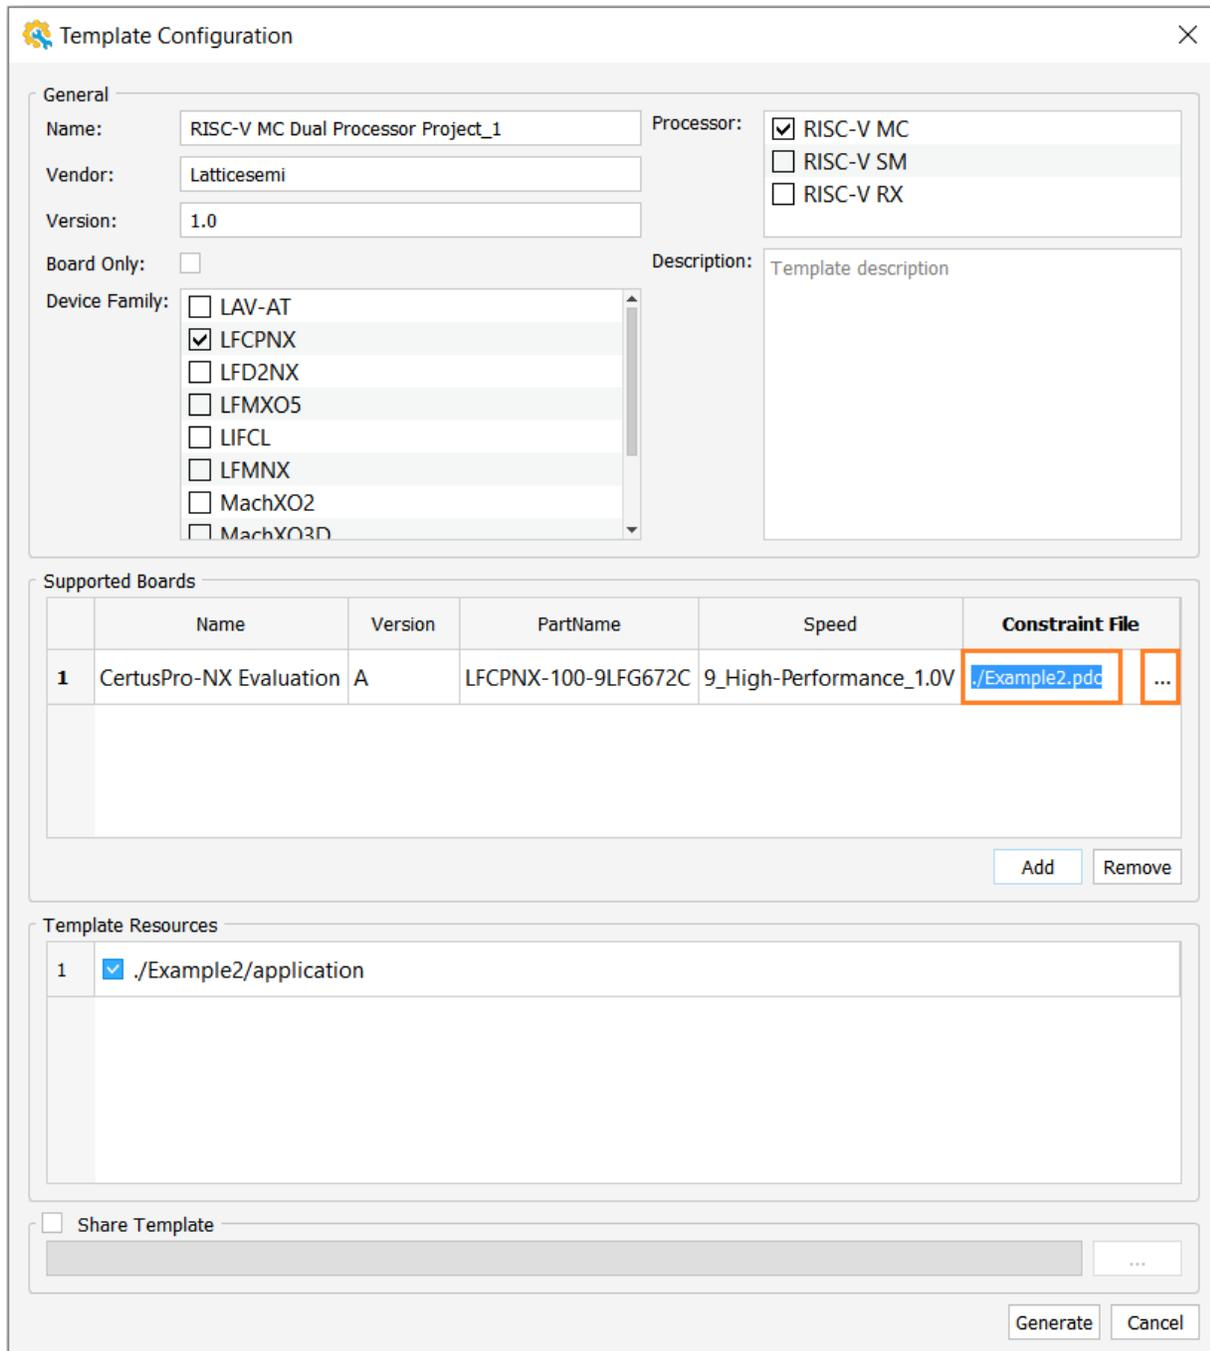

Figure 2.122. Double Click on the Constraint File Name
- Board **must** contain a Constraint File. **Double click** on the constraint file name (./Example2.pdc), and then click ‘...’ button to select the constraint file (Figure 2.122).